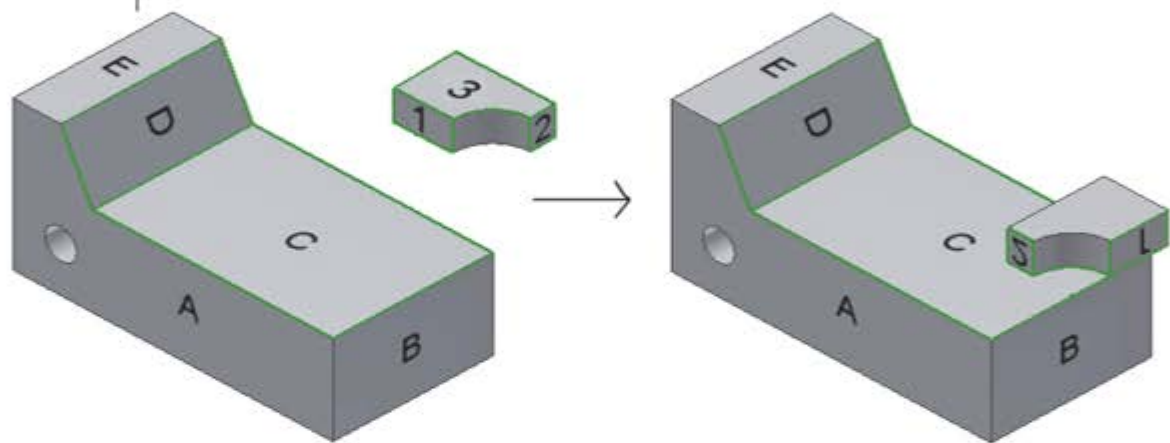

Figure 16–57
7. Which of the following constraint combinations can be used to create the assembly shown on the right in Figure 16–57?